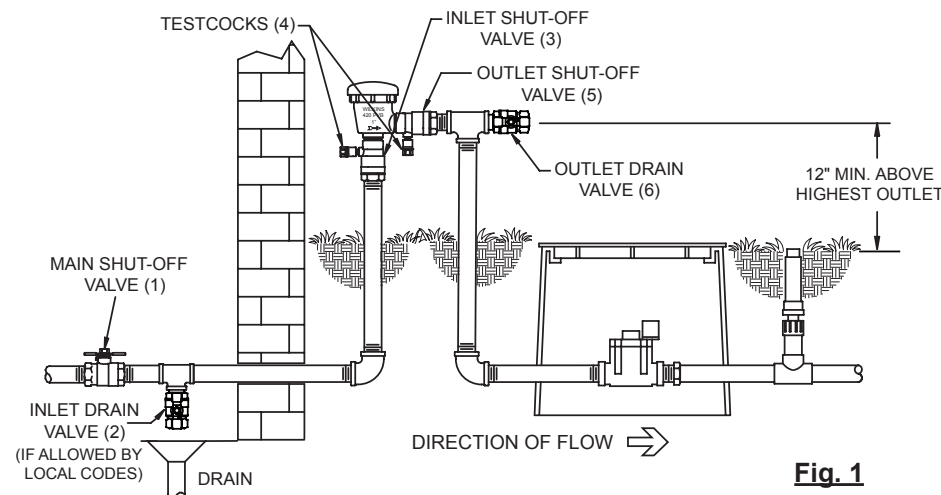

Fig. 1
2. The Model 420 must be installed in a vertical position (see Fig. 1) to provide proper operation of the air inlet valve.